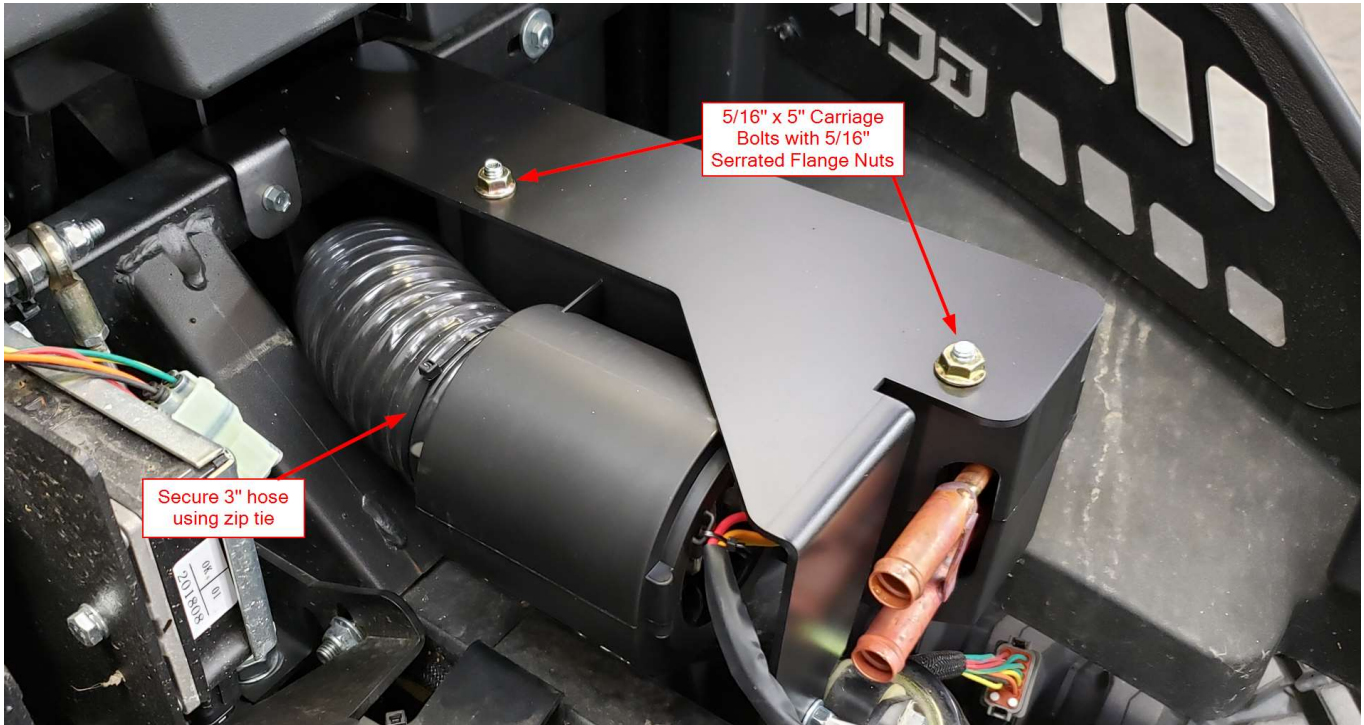

Figure 16
- g. Attach the Heater assembly to the Main Heater bracket using the 5/16" x 5" Carriage Bolts and 5/16" Serrated Flange Nuts. **Note:** Install the Carriage bolts first from the bottom of the heater as shown in Figure 16. With the heater secured, attach the 3" Duct Hose to the opening on the motor and secure using a zip tie as shown in Figure 16.